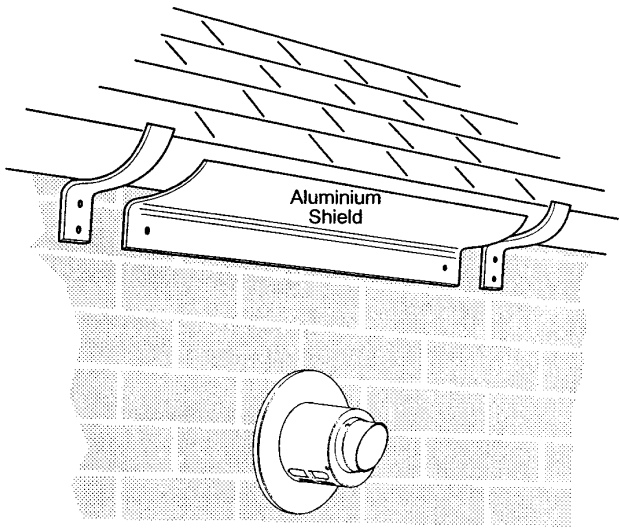

Fig. 16
2. If the terminal is fitted within 1 metre (39 in) of a plastic gutter, within 500mm (19½in) of a painted eave or a painted gutter, an aluminium shield of at least 1 metre (39 in) long should be fitted to the underside of the gutter or painted surface. An air space of 5mm (³⁄₁₆ in) should be left between shield and gutter (Fig. 16).